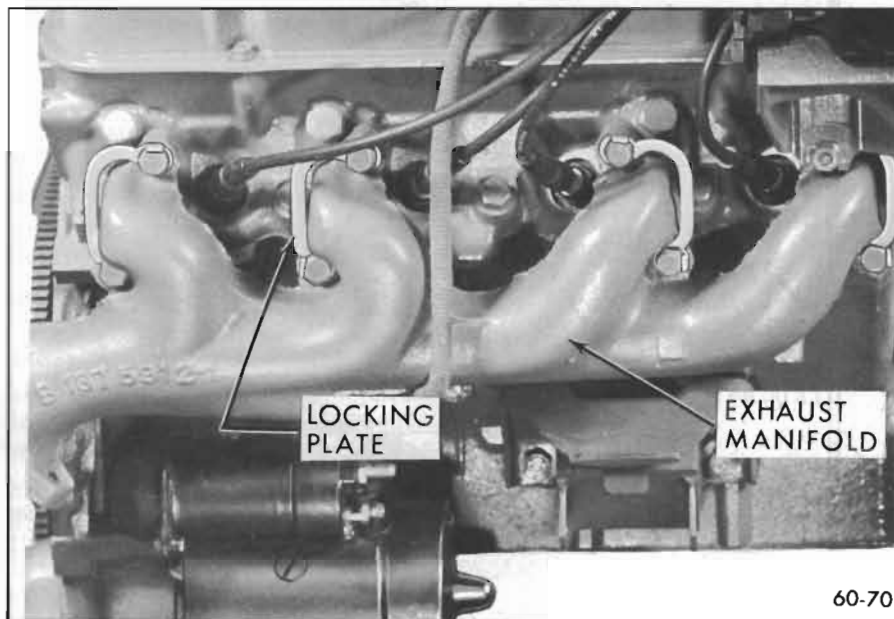

Figure 60-70—Exhaust Manifold Installation
3. Assemble exhaust manifold to cylinder head with bolts and locking plates as shown in Figure 60-70. Torque bolts to 10-15 lb. ft.